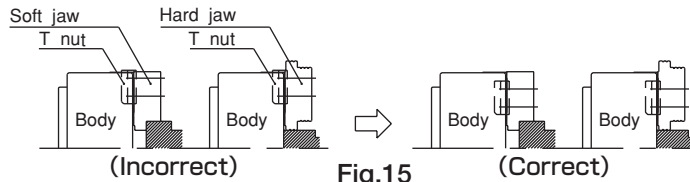

Fig.15
- Use the T nut so that it does not come out from the master jaw. (Refer to Fig.15)